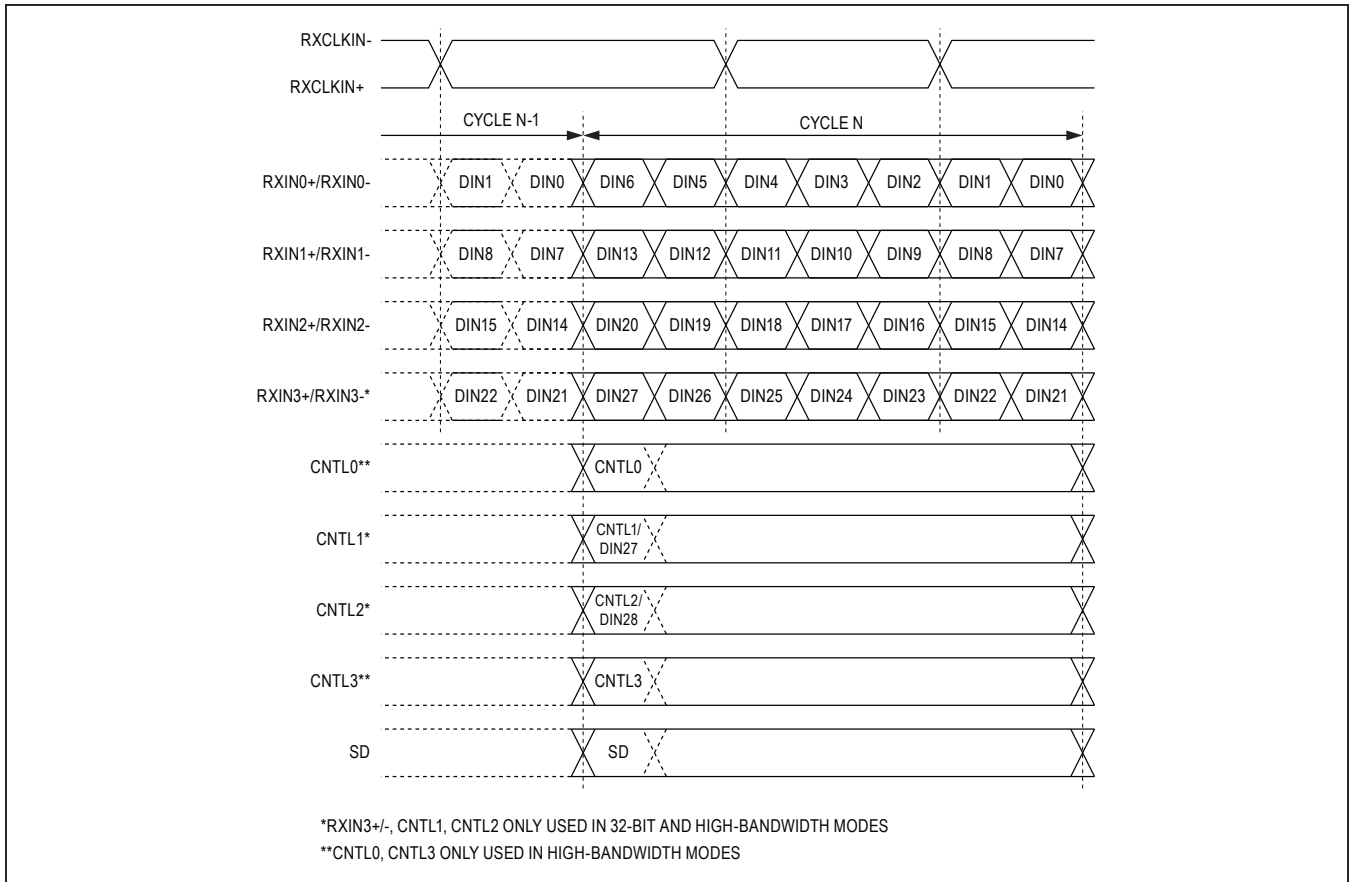
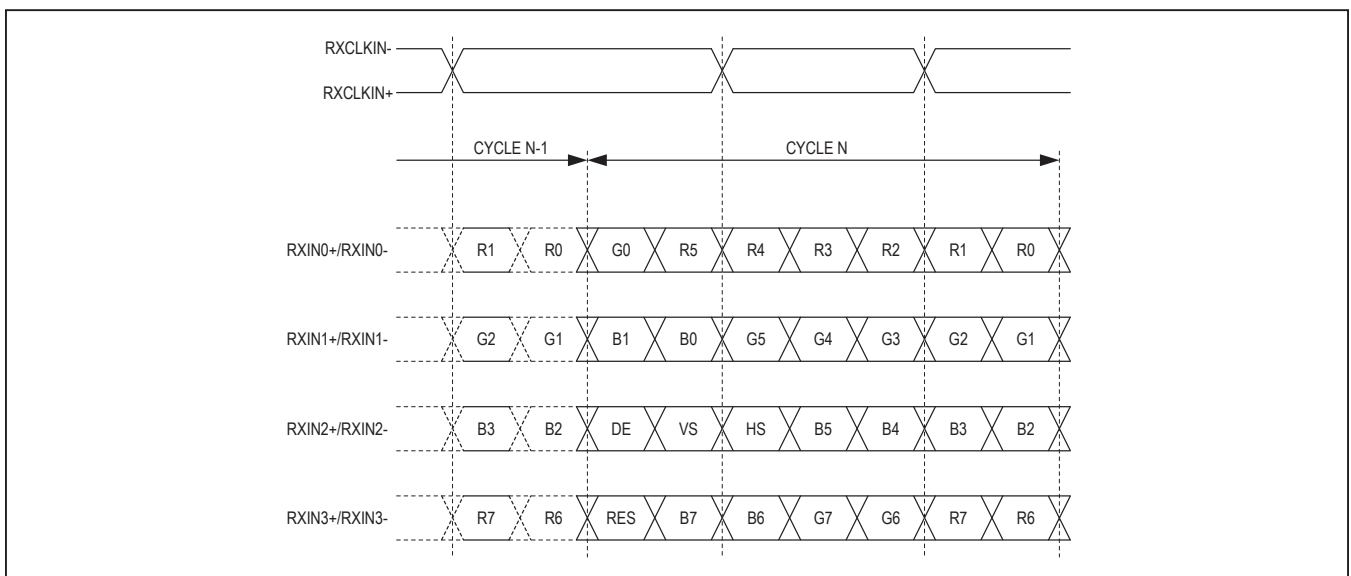

Figure 15. LVDS Input Timing
Figure 16. LVDS Clock and Bit Assignment
**Table 2. Input Map (See Figure 15, Figure 16)**